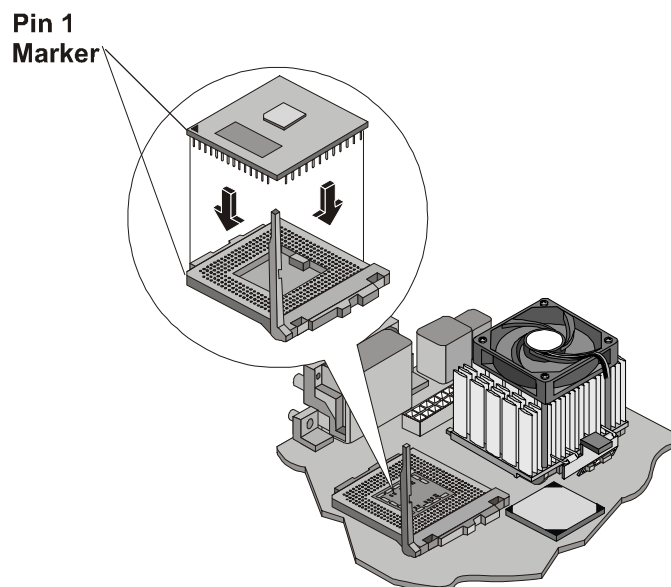

Figure 3-18. Installing Processor
9. Align the second processor over the empty processor socket. See Figure 3-18.
5. Open the ZIF lever to allow removal of the processor. See Figure 3-18.